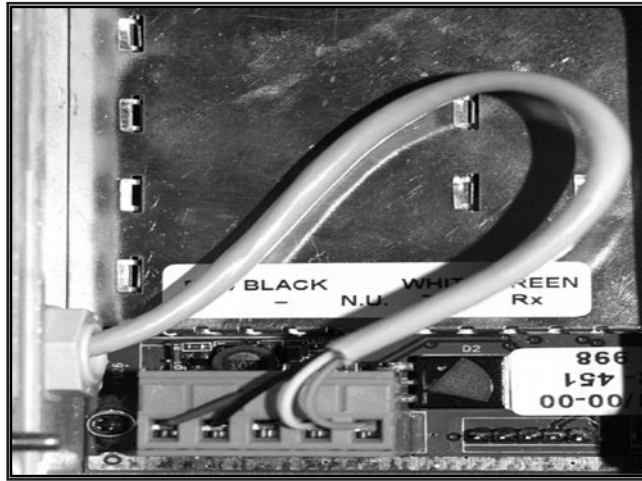

Figure 11: Cable Strain Relief
7. Loop the cable inside the housing as a strain relief (see Figure 11).